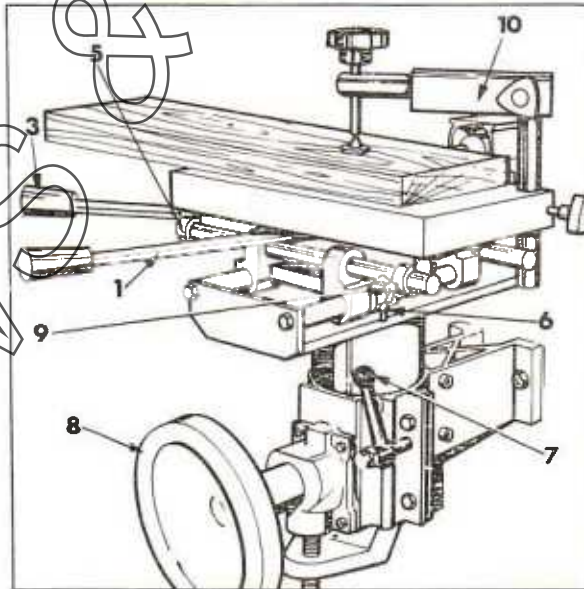

Fig.21
Length of mortice can be set by adjustable length stops (5,9). Depth of mortice should be measured between table carriage and adjustable depth stop (6) when material contacts mortice cutter. See Fig.21
For correct working height the table can be raised or lowered by the handwheel (8) after releasing lock (7). Re-lock when table is correctly positioned. Fig.21
After fixing the size of mortice cutter required securely in the mortice chuck the material should then be positioned on work table and fastened by the clamp screw (10) against the guide. See Fig.21